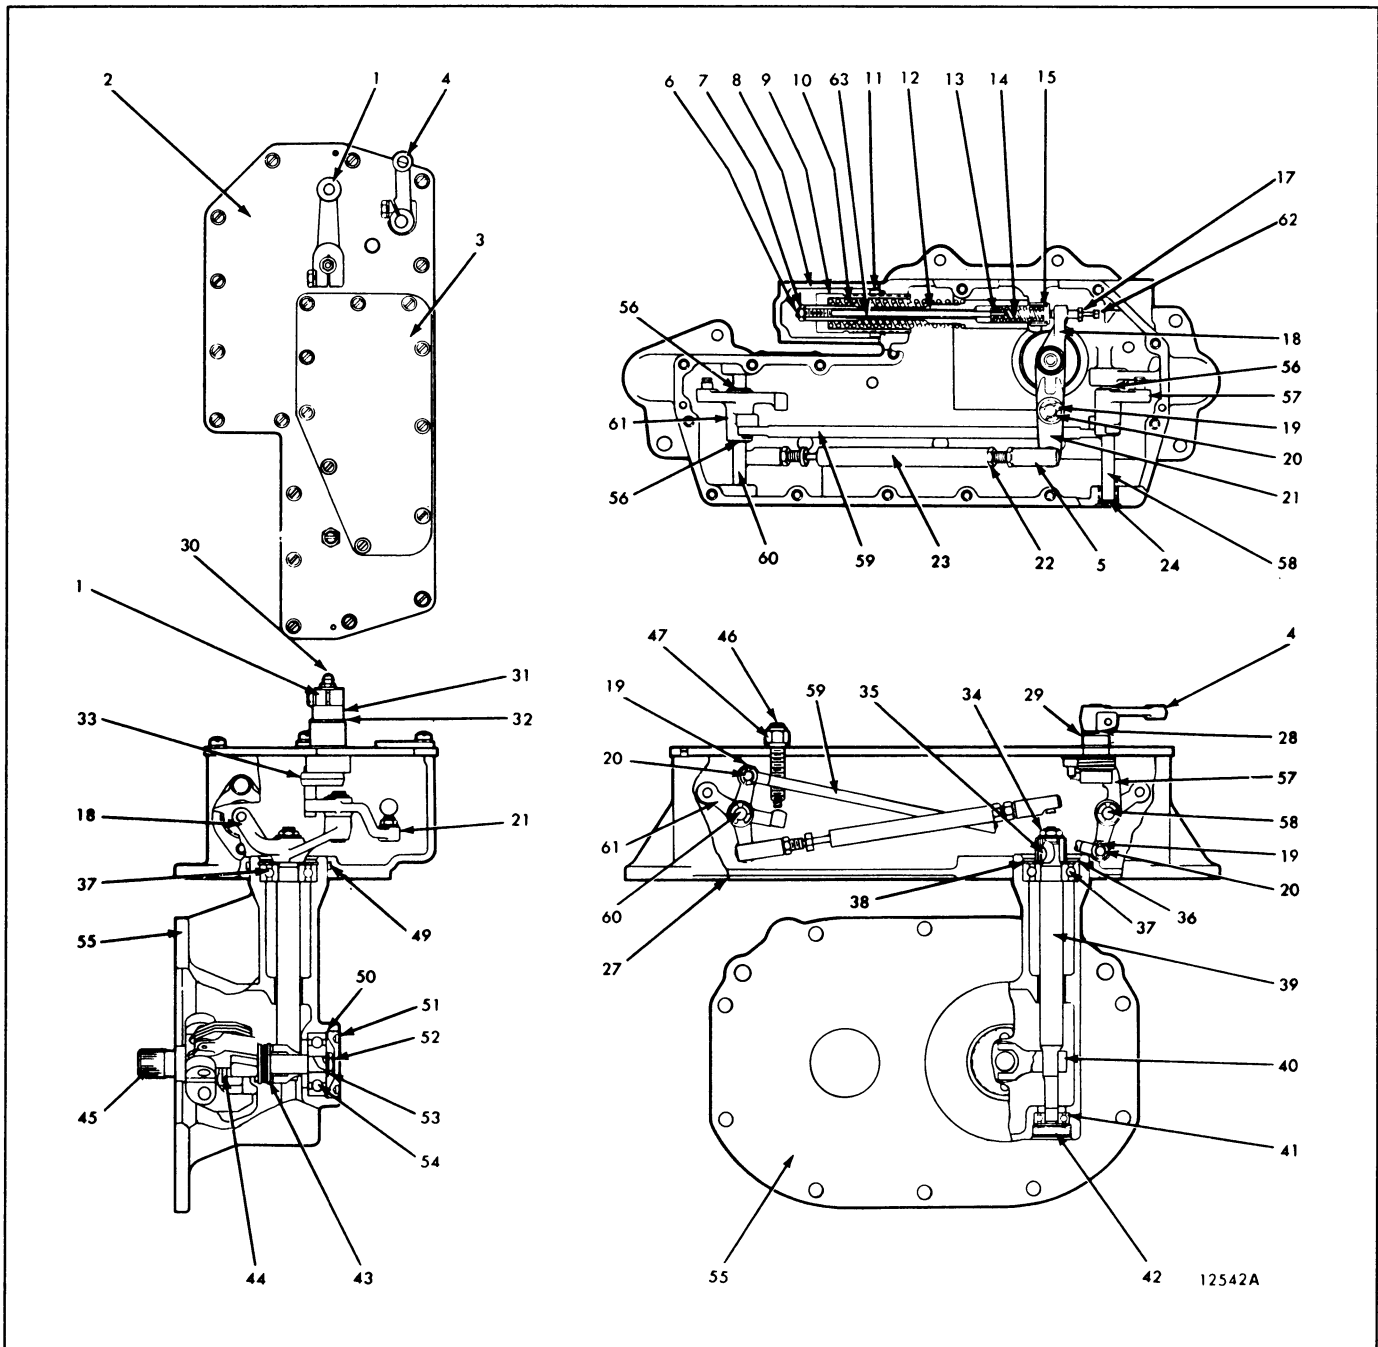

Fig. 2 - Cross Sections of Limiting Speed Governor (Current)
Current engines include a starting aid screw (62), Fig. 2, threaded into the governor gap adjusting screw. This limits fuel input during engine start-up when the speed control lever is in its *idle* position. The current governor also includes lighter low-speed weights to permit an idle speed range of 550 to 750 rpm. Formerly, the idle speed range was 450 to 550 rpm.
To update a former limiting speed governor, remove the governor gap adjusting screw and nut. Install a service only bracket and the current gap adjusting screw and the starting aid screw (Fig. 2). The locknut is not required as both screws incorporate a nylon patch in lieu of the locknut. The former governor can also be reworked to increase the idle speed range by replacing the three low-speed weights with the current lighter low-speed weights. No other changes are necessary.
The centrifugal force of the revolving governor low and high-speed weights (Fig. 2) is converted into linear motion which is transmitted through the riser and operating shaft to the operating shaft lever. One end of this lever operates against the high and low-speed springs through the spring cap, while the other end provides a moving fulcrum on which the differential lever pivots.